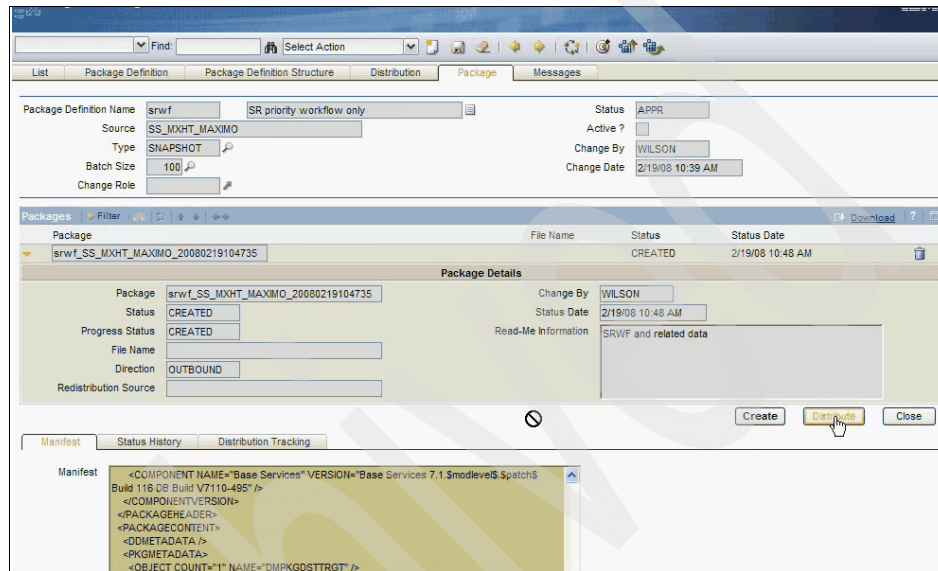

Figure 8-38 Package distribution
1. Click the **Distribute** button to start package distribution, as shown in Figure 8-38.